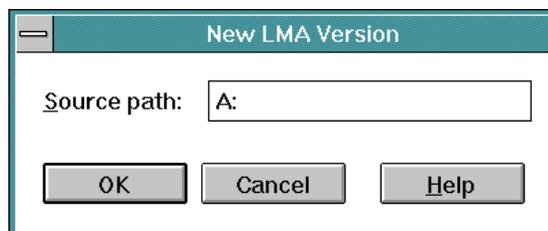

Figure 156. New LMA Version Dialog Box
4. Click the *New* button. The *New LMA Version* dialog box appears (Figure 156) with the diskette drive (**A:**) selected as the default.